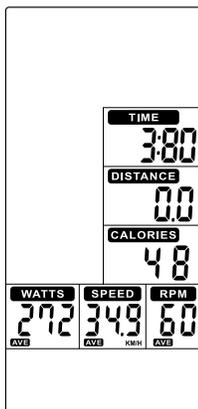
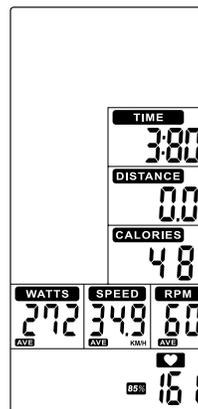

Figure 19
Figure 21
- The **PULSE** window will display 65% and 85% of the maximum pulse value every 5 seconds (see Figures 21–23).
6. If pulse data is detected, the **PULSE** window will display the user's actual pulse. If no pulse signal is detected, the **PULSE** window will remain blank (see Figures 19–20).
- The **PULSE** window will display the actual pulse and pulse values at 65% and 85% of the maximum heart rate (see Figures 21–23). If no pulse signal is detected, the **PULSE** window will remain blank (see Figures 19–20).
- The **PULSE** window will display 65% and 85% MAX values every 5 seconds (see Figures 21–23).
8. If pulse data is detected, the **PULSE** window will display the user’s actual pulse. If no pulse signal is detected, the **PULSE** window will remain blank (see Figures 19–20).
11. If pulse data is detected, the **PULSE** window will display the user's actual pulse. If no pulse signal is detected, the **PULSE** window will remain blank (see Figures 19–20).